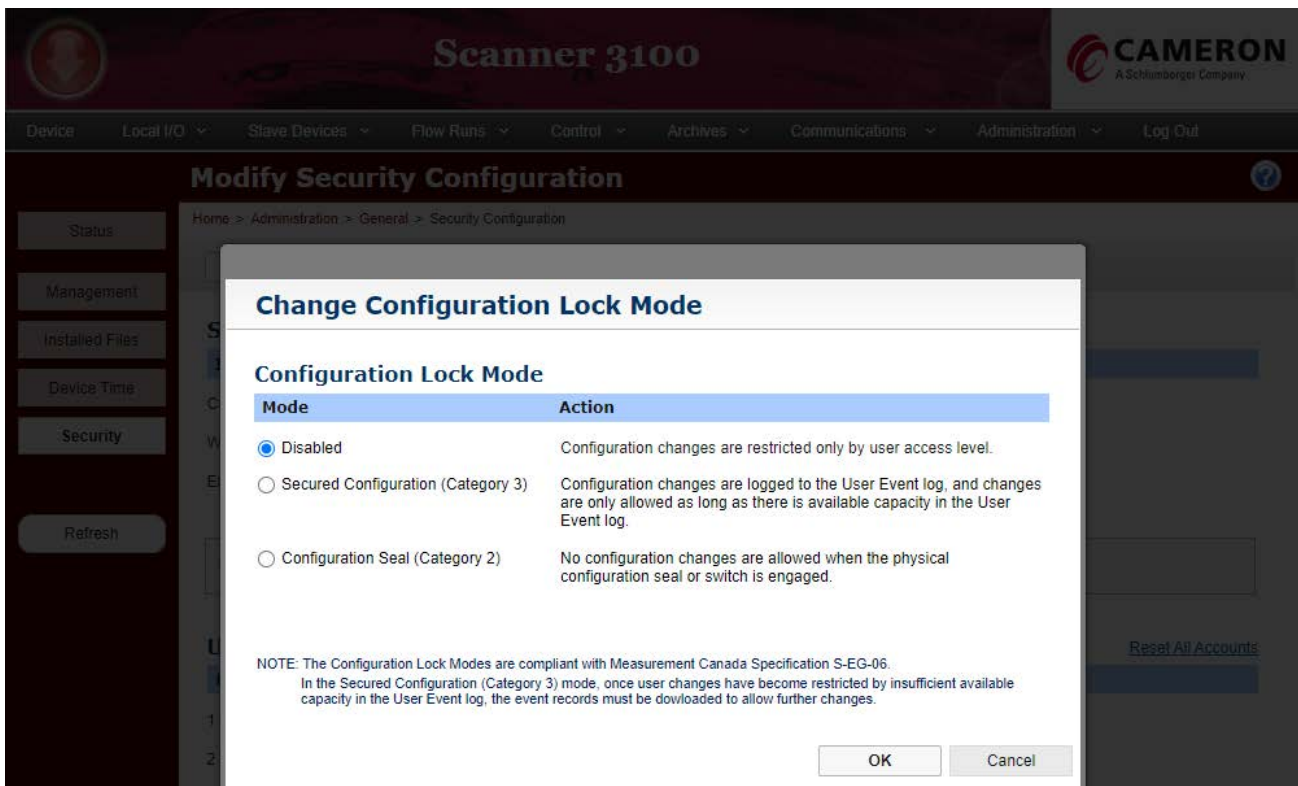

Figure D.6—QRATE Scanner 3100 Web Interface Configuration Lock Mode
- 4. The Configuration Lock Mode will appear (see Figure D.6).